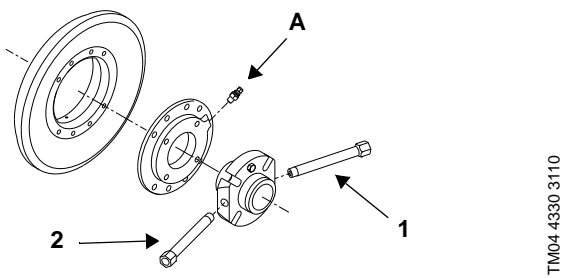

Fig. 4 Back-to-back seal arrangement with cartridge seal
1	<p>Connecting the barrier fluid supply pipe</p> <ul style="list-style-type: none"> Connect one end to the seal chamber (pos. 1, fig. 2) or to the cartridge seal (pos. 1, fig. 4). Connect the other end to the outlet of the dosing pump.
3	<p>Filling with barrier fluid</p> <ul style="list-style-type: none"> Start the dosing pump. Fill with barrier fluid. <p>Seal chamber: Loosen the vent screw at the top of the seal chamber (pos. 2, fig. 2), and fill the seal chamber with barrier fluid through the inlet (pos. 3, fig. 2). When the liquid starts running out of the vent hole, immediately close the vent screw.</p> <p>Cartridge seal: Fill the cartridge seal with barrier fluid through one of the connections (pos. 1 or 3, fig. 4). When the liquid starts running out of the vent hole, immediately close the vent screw.</p> <p>The dosing pump will stop automatically when the pressure set in step 2 has been reached.</p>
4	<p>Operation with positive inlet pressure</p> <ul style="list-style-type: none"> Loosen the vent screw (pos. A, fig. 2 or fig. 4) in the cover. Close the isolating valve on the discharge side. Open the isolating valve on the inlet side. Slowly fill the pump with the liquid to be pumped. When the liquid starts running out of the vent hole, immediately close the vent screw. <p>Operation with suction lift</p> <ul style="list-style-type: none"> Loosen the vent screw (pos. A, fig. 2 or fig. 4) in the cover. Close the isolating valve on the discharge side. Fill the pump and the inlet pipe with the liquid to be pumped using a funnel. When the liquid starts running out of the vent hole, immediately close the vent screw. <p>Note: A non-return valve must be fitted to the inlet pipe.</p>
5	<p>Starting up the pump</p> <p>See also installation and operating instructions for NK, NKG pumps.</p> <ul style="list-style-type: none"> Open the isolating valve on the discharge side. Start the pump, and check the direction of rotation. See the correct direction of rotation on the motor fan cover. After a few minutes, vent the pump again by means of the air vent screw (pos. A, fig. 2 or fig. 4).
<p>Operation with positive inlet pressure</p> <ul style="list-style-type: none"> Loosen the vent screw (pos. A, fig. 2 or fig. 4) in the cover. Close the isolating valve on the discharge side. Open the isolating valve on the inlet side. Slowly fill the pump with the liquid to be pumped. When the liquid starts running out of the vent hole, immediately close the vent screw. <p>1 Operation with suction lift</p> <ul style="list-style-type: none"> Loosen the vent screw (pos. A, fig. 2 or fig. 4) in the cover. Close the isolating valve on the discharge side. Fill the pump and the suction pipe with the liquid to be pumped using a funnel. When the liquid starts running out of the vent hole, immediately close the vent screw. <p>Note: A non-return valve must be fitted to the suction pipe.</p>
<p>5 Starting up the pump</p> <p>See also installation and operating instructions for NK, NKG pumps.</p> <ul style="list-style-type: none"> Start the pump, and check the direction of rotation. See the correct direction of rotation on the motor fan cover. After a few minutes, vent the pump again by means of the vent screw (pos. A, fig. 2 or fig. 4).